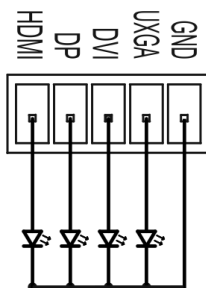

Figure 7: Remote Input Indicator LED Wiring
3. Connect pin 3 from the terminal block to the anode of the remote DVI indicator LED, (see the example in Figure 7).